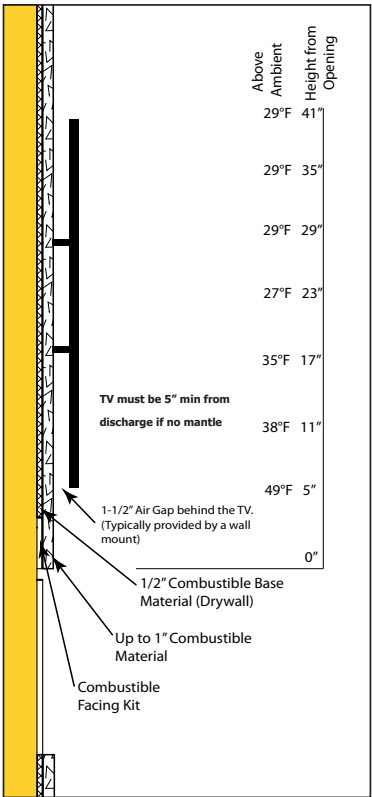
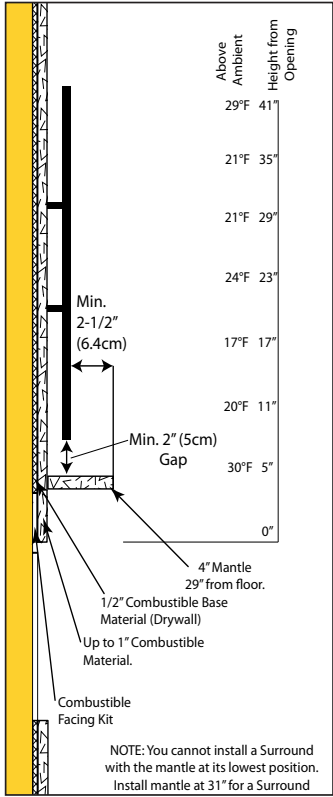

Figure 12: CSS - TV Clearances
Figure 13: CSS - TV Clearances
**During testing temperatures did not exceed 121°F (49°C) midway up the front wall (Figure 12 & 13).** There is no guarantee that these temperatures will not harm the longevity of your TV. Make sure to consult your TV manufacturer's specifications to find the maximum allowable operating temperature. Since every home and installation is unique, temperatures should be verified at the time of install if possible. If desired, front wall temperatures can be lowered to 104°F (40°C) with the use of a mantle (Figure 13). Refer to page 7 for revised mantle clearances. A TV should not be installed if temperatures exceed the manufacturers maximum allowable temperature.